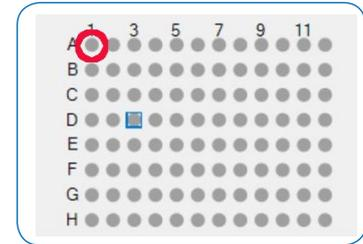

Figure 4.5 Selecting the spot with HCCA (e.g. spot A1)
- Select the spot with HCCA matrix in the left window by clicking on the spot (see Figure 4.5)